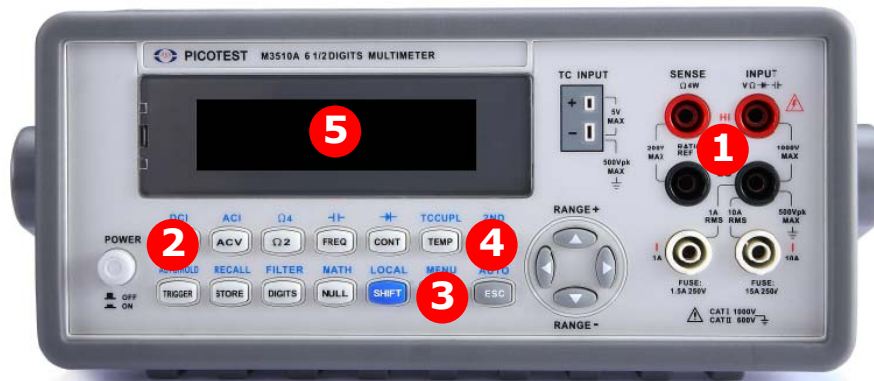

Figure 3-2
There are two ways to make a ratio measurement: Through the front panel operation or through the remote interface operation. The locations of the buttons are highlighted in **Figure 3-2**.
1. Connect the test leads to the terminals on the front panel as shown in **Figure 3-2**.